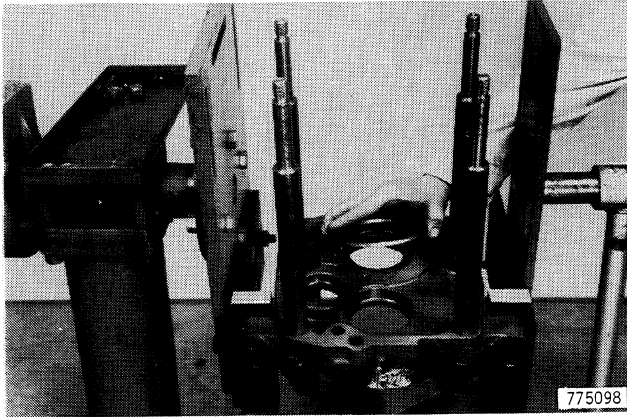

Figure 102
44. Remove the bearing retaining plate, Figure 102.